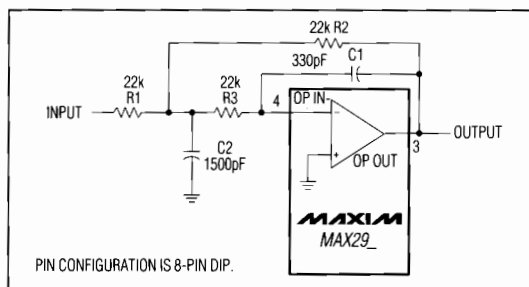

Figure 4. Uncommitted Op Amp Configured as a 2nd-Order Butterworth Lowpass Filter ($F_o = 10\text{kHz}$)
The uncommitted op amp has its noninverting input connected to the GND pin, and can be used to build a 1st- or 2nd-order continuous-time lowpass filter. This filter is intended for anti-aliasing applications preceding the switched-capacitor filter, but it can be used as a post-filter to reduce clock noise. Figure 4 shows one of many filters that can be built with this op amp: a 2nd-order Butterworth filter with a 10kHz corner frequency and an input impedance greater than 22kΩ. Table 1 gives alternative component values for different corner frequencies of the same Butterworth filter.
Table 1. Component Values for Figure 4's Filter
As the passband ripple of the MAX293/MAX294/MAX297 elliptic filters is of the order of $\pm 0.1\text{dB}$, it is normally appropriate to keep the passband errors of any anti-aliasing filter at or below this level. This is achieved by choosing the corner frequency of Figure 4's Butterworth filter (f_{cB}) to be higher than the corner frequency of the elliptic switched-capacitor filter (f_{cE}) by a factor of 2.5 or more. A factor of 5 or more is recommended to avoid problems with component tolerances, i.e. $f_{cB} > (5)f_{cE}$.